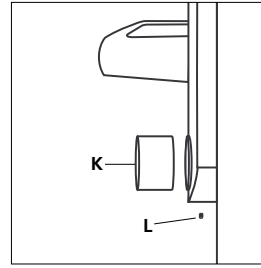

Figure 13
- 9) Install the medallion (K) on the outside housing. Position the medallion over the override cylinder and secure it with the retaining screw (L) at the bottom of the lock (see Figure 13).